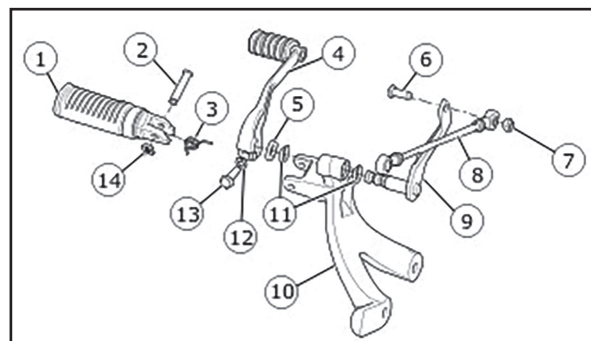

Figure 3. Left Side Pre-Assemble
1. See Figure 3. Install footpeg to foot support bracket.
- a. Insert short leg of torsion spring (3) into hole in footpeg (1).
- b. Insert long leg of torsion spring into hole in left foot support bracket (10).
- c. Rotate footpeg into position and install clevis pin (2).
- d. Install E-clip (14).
- f. See Figure 3. Install shift lever (4) onto shift rod lever.
- g. Install lock washer (12) and screw (13). Tighten.